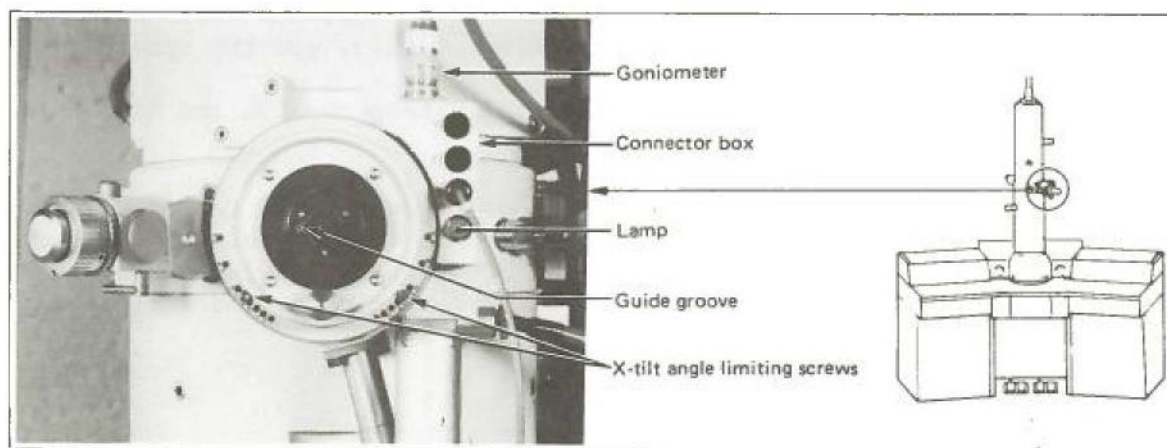

Fig. 4.5 Goniometer
- b. Set the two X-tilt angle limiting screws (Fig. 4.5) to 25° , 30° or 60° when SAP, HMP or SAP is used, respectively.
- groove (Fig. 4.5), push the holder into the goniometer as far as it will go and hold it there until the connector box lamp (which lights up indicating the commencement of goniometer evacuation) goes out.